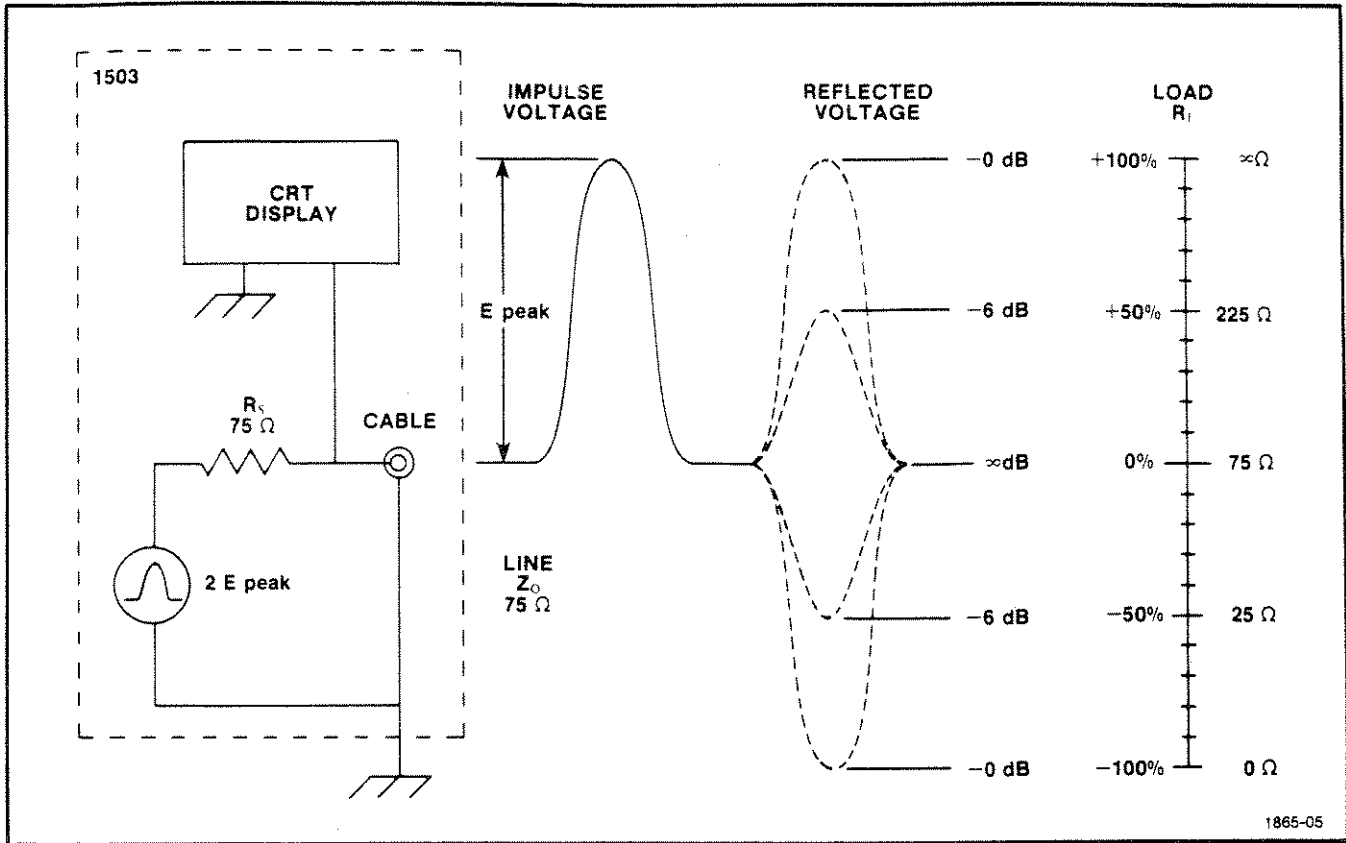

Fig. 2-5. TDR display of  $R_L$  vs  $Z_0$ .
Fig. 2-5 shows the two parts of a TDR display appropriately labeled to identify the test and return voltage signals. When the return loss =  $\infty$  dB, the cable is terminated by a resistance equal to its characteristic impedance ( $Z_0$ ), since a perfectly matched cable ( $R_L = Z_0$ ) gives no reflection. When the return loss equals 0 dB with a positive return pulse, the cable has an open termination ( $R_L = \infty \Omega$ ). When the return loss equals 0 dB with a negative return pulse, then the cable is terminated with a short ( $R_L = 0 \Omega$ ).
*Care must be taken to account for cable loss which is assumed to be zero in the example shown in Fig. 2-5. Actual discontinuities are shown later in this section.*